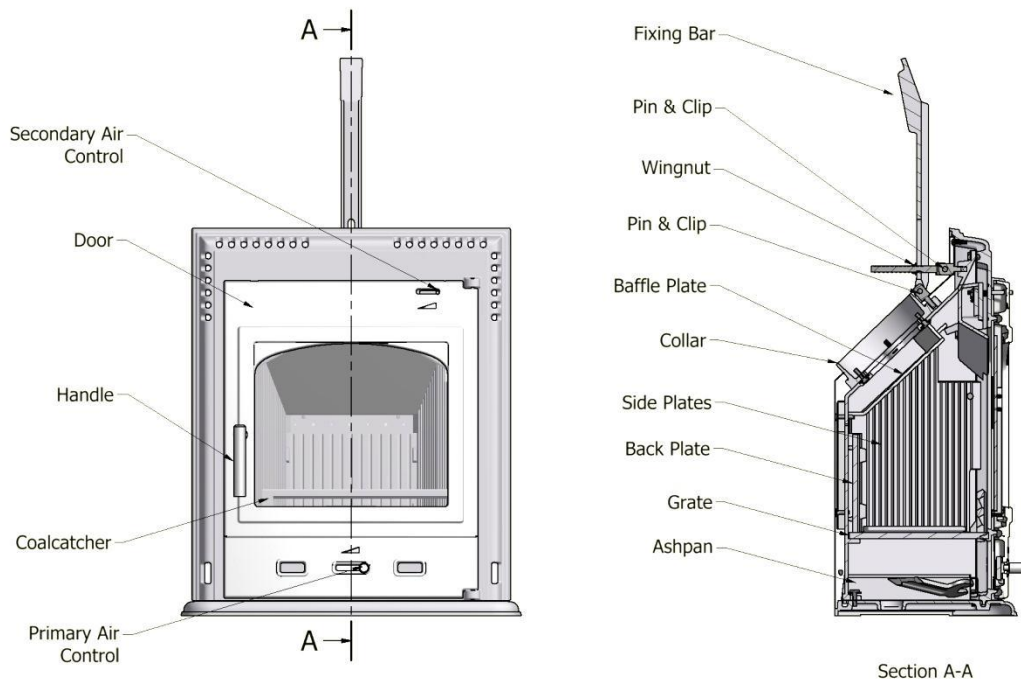

Fig 2 – HH5i Stove Assembly and controls
- Secure the fixing bar and the tightening screw to the stove as shown in fig. 2. Do not put on the wingnut until the stove is in place.